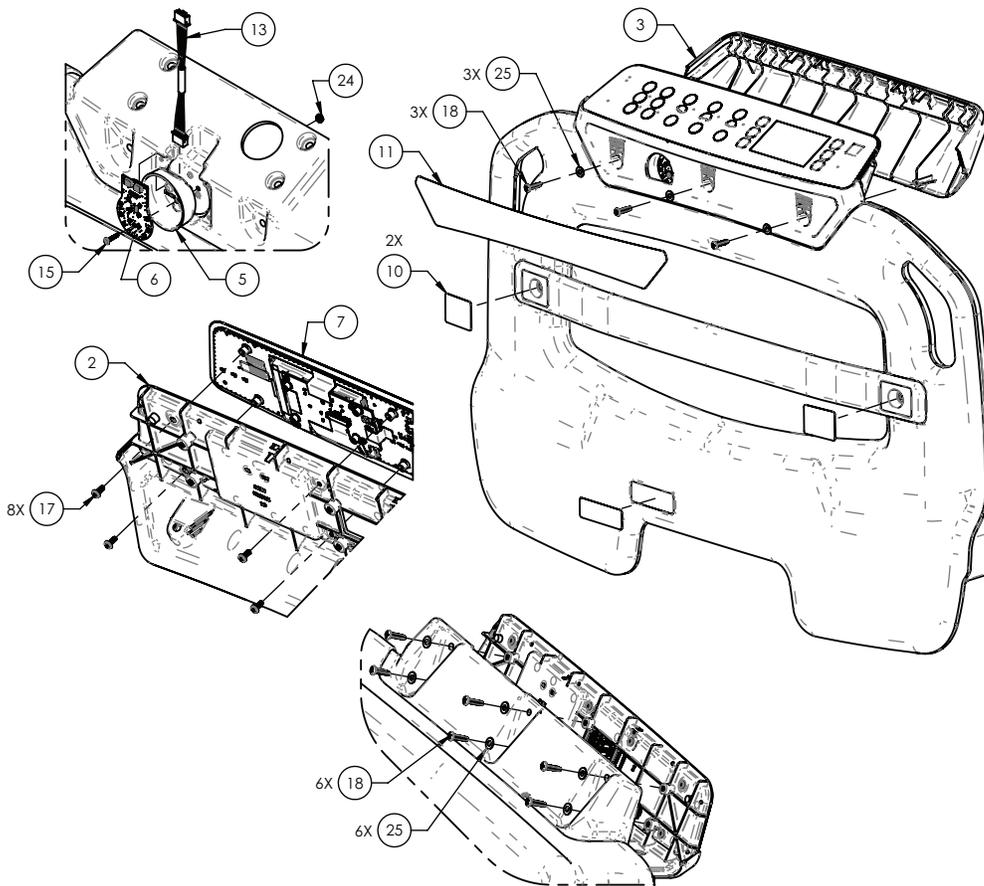

Figure 26 – Footboard keypad/display replacement
5. Using a pick, remove the front label (11) from the footboard (Figure 26).
6. Using a #2 Phillips screwdriver, remove and save the three screws (18) and washers (25) that secure the back panel (3) to the footboard (Figure 26).
7. Remove and save the back panel (3).
8. Using a #2 Phillips screwdriver, remove and save the six screws (18) and six washers (25) that secure the keypad/display (7) to the footboard (Figure 26).
9. Disconnect the keypad/display cable and the iBed footboard light cable (13). Remove and discard the keypad/display (7) (Figure 26).